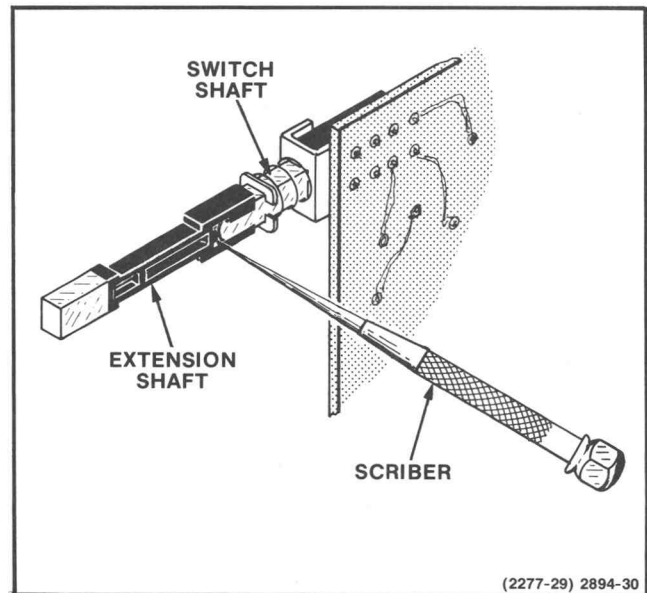

Fig. 5-5. Removing pushbutton extension shaft.
To remove extension shafts, insert a sharp pointed tool, such as a scriber, between end of switch shaft and extension shaft. Moving scriber back and forth will cause extension shaft to be released from the switch shaft. See Fig. 5-5.
Switch shaft extensions are easily broken during removal unless proper method is used. See paragraph on removal of pushbutton-extension shafts and Fig. 5-5.
1. Remove extension shaft from Respiration DISPLAY OFF switch shaft. See Fig. 5-5.